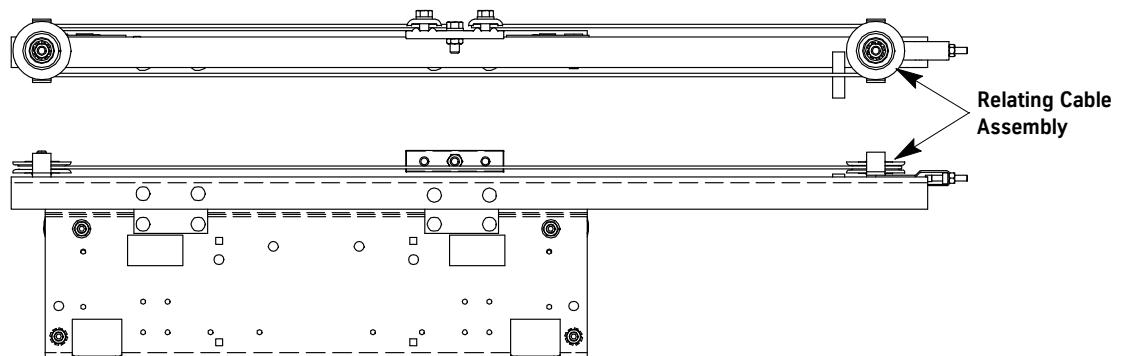

Figure 37 - Relating Cable
13. Adjust the relating cable tension and the door position on center opening and two speed jobs. See Figure 37.